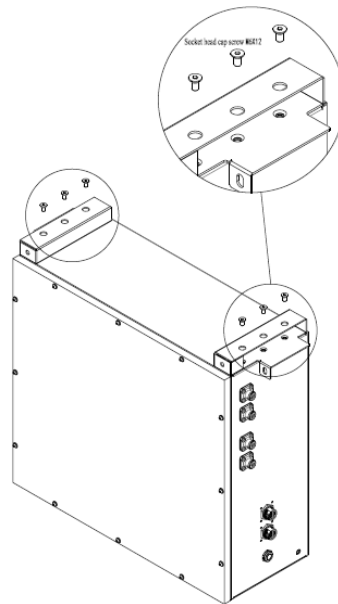

Figure 6 Lock the left and right corner
- As shown in Figure 6, place the battery system vertically, put the prepared angle iron on both sides to align the holes and fix it with six M6 x 12mm countersunk screws.